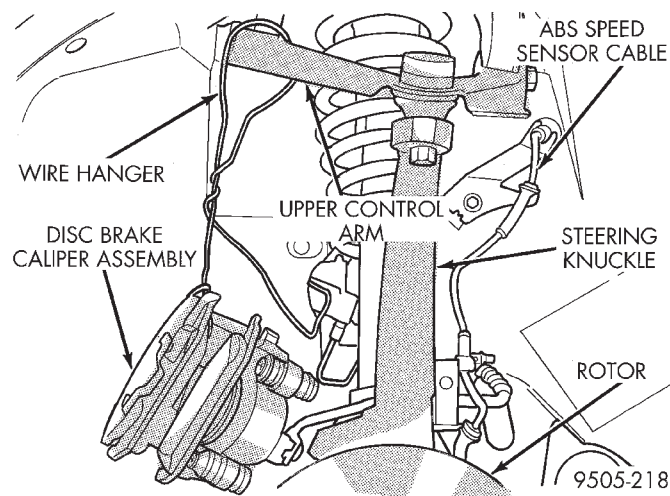

Fig. 62 Correctly Supported Front Disc Brake Caliper
(7) Support brake caliper/adapter assembly using a wire hook (Fig. 62) and not by hydraulic hose.